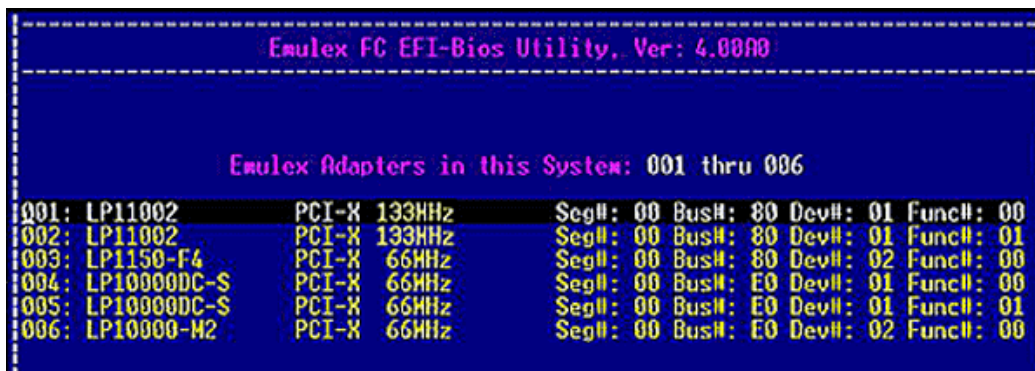

Figure 8-1 Adapter Listing Screen
- Press **<Enter>**. Information similar to Figure 8-1 is displayed (listing all adapters in the system):